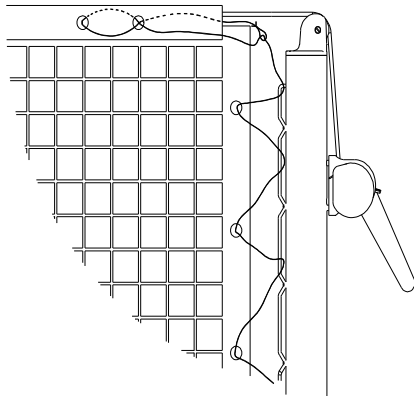

FIG. 6
10. Install lacing cord at each end by making a 2" knotted loop on one end of the lacing cord. Run the other end through both grommets in the tennis net headband and around the post, through the 2' loop and back around the post in the opposite direction. (FIG. 6)